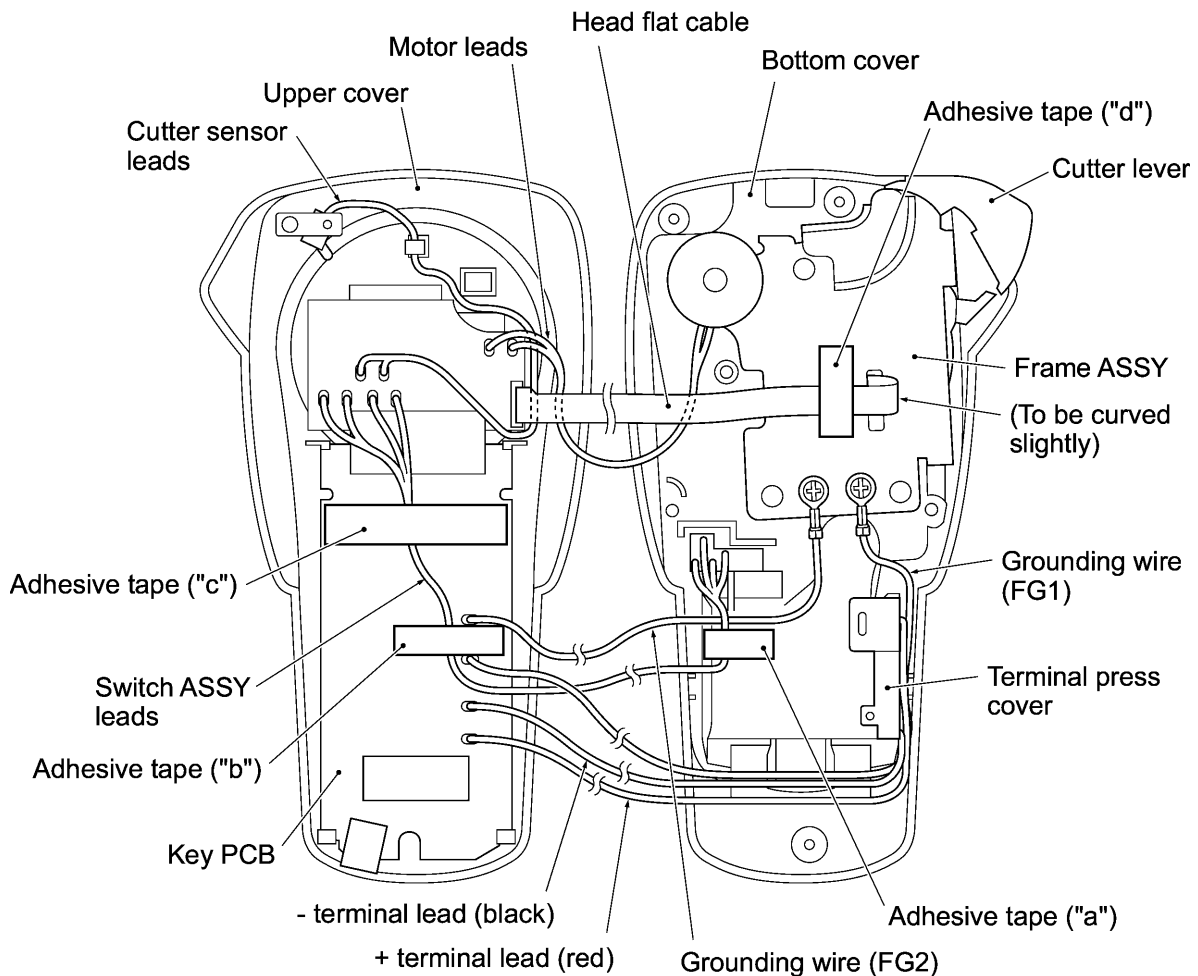

Figure 3.1-5 Routing the Flat Cable and Lead Wires
- Make sure that the cutter sensor leads are routed as shown in Figure 3.1-5.